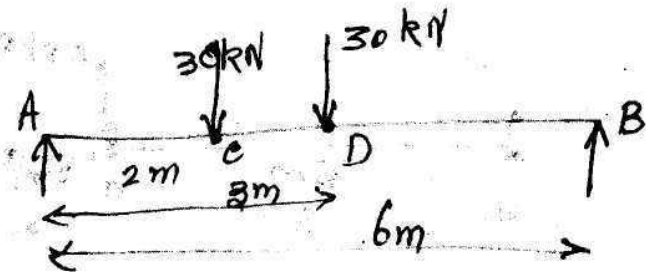

Figure -4
7. A beam simply supported at ends A and B is loaded with two point loads of 30 kN each at a distance of 2 m and 3 m respectively from end A as shown in figure -4. Determine the position and magnitude of the maximum deflection. (15)